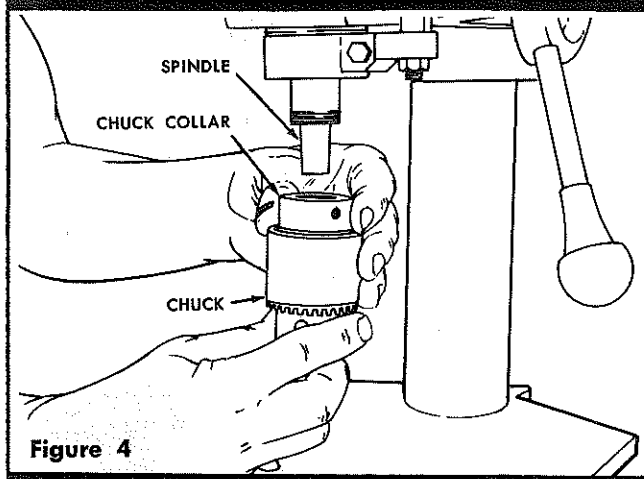
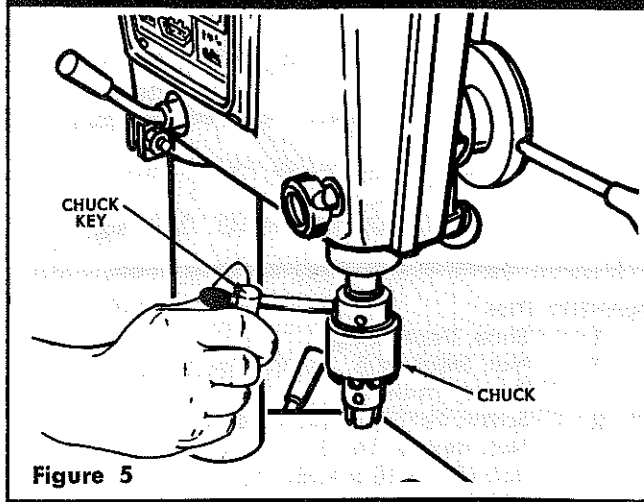

Figure 4
Figure 5
6. Apply a light film of oil on spindle taper and place chuck on end of spindle (See figure 4). Screw the chuck collar onto the threaded portion on end of spindle. Hold spindle pulley with one hand to prevent spindle from rotating and tighten chuck collar with drill chuck key. (See figure 5).